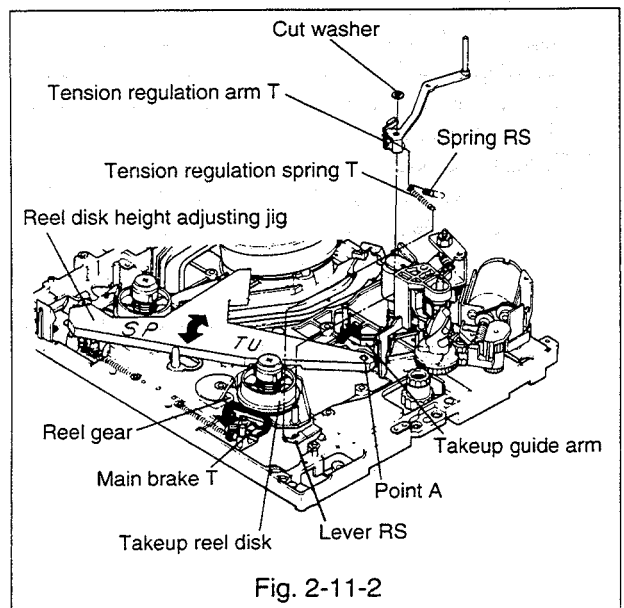

Fig. 2-11-2
### 2-11-2 Installation(Refer to Fig. 2-11-2, 2-11-3.)
- A. Turn the main brake T slightly counter-clockwise to release the takeup reel disk shaft. Slip the takeup reel disk onto the shaft so that the gear of the takeup reel shall mesh with the reel gear. (Refer to Fig. 2-11-2.)